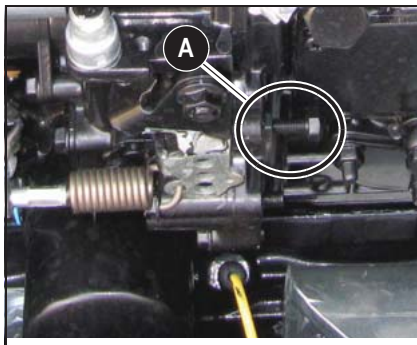

Fig. 18: Adjusting engine speed
- ☞ A manual tachometer Fig. 18 can be obtained from a Wacker Neuson workshop